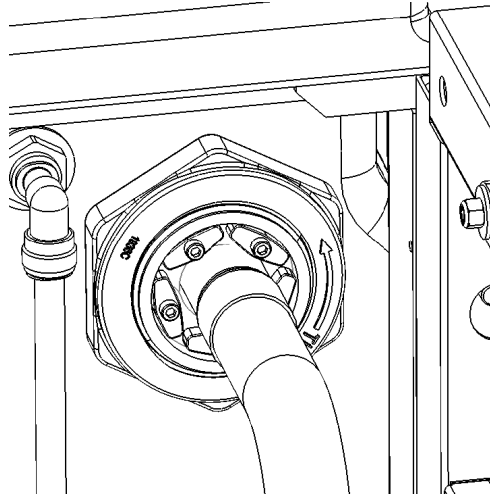

Figure 25 – Upper Link-Seal®
1. Within the Refrigeration Management System (RMS) area, compress (or remove, if necessary) INSULATION blocking access to upper and lower COLLECTION HEADERS (see Figure 25 for an illustration of the LINK-SEAL surrounding the upper COLLECTION HEADER).